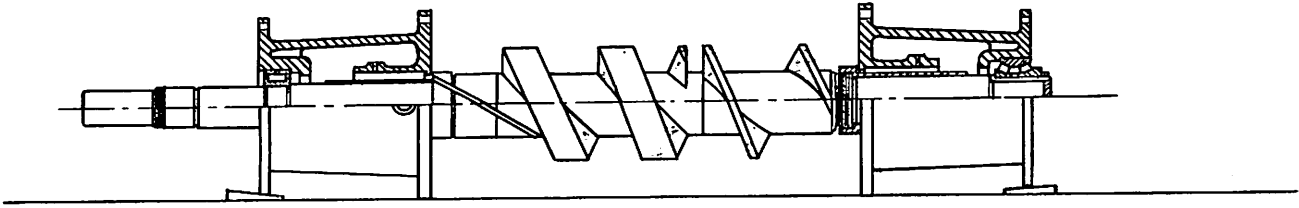

Fig. 9
1. To locate the keyway in the unsplined gear, the rotors must be removed from the body, then held in a steady and level position. This may be accomplished by using specially constructed timing stands (See Fig. 8) or by setting the rotors up in their bearings in the bearing brackets (See Fig. 9).